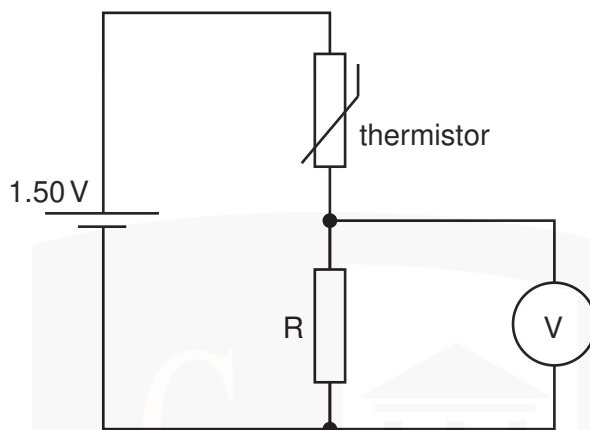

Fig. 8.1
- 1 A thermistor has resistance $3900\ \Omega$ at $0\ ^\circ\text{C}$ and resistance $1250\ \Omega$ at $30\ ^\circ\text{C}$. The thermistor is connected into the circuit of Fig. 8.1 in order to monitor temperature changes.
- (c) The voltmeter in Fig. 8.1 is replaced with one having a resistance of $7800\ \Omega$. Calculate the reading on this voltmeter for the thermistor at a temperature of $0\ ^\circ\text{C}$.